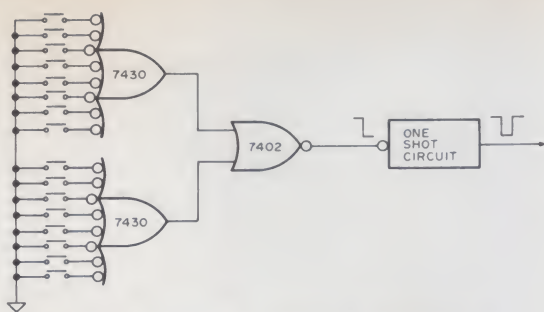

Fig. 7. Logic symbols reflect the logic functions.
Procedure: Fig. 6 gives the circuit. Fig. 6 shows the circuit the way I have been teaching you the gates. I have done this deliberately until now. Fig. 6 is *incorrectly drawn*. The correct method of drawing the circuit is shown in Fig. 7.
In the interest of simplicity, I've ignored this point until now. We are using active low inputs on the 7430 in Figs. 6 and 7; the logic function is the OR function. We want to detect when pin 1 OR pin 2, OR pin 3 and so on goes low. Thus we would draw the circuit as shown in Fig. 7 using the OR symbol and placing the little circles (state indicators — "indicating the state") on the inputs, and not on the output. By placing the circles on the inputs we are indicating that the gate is looking for active low inputs (i.e., the switch taking the input to ground). If a gate has a circle at the output (such as the 7402 NOR) the output is low when the logic function of the gate (OR) is being performed. All of this is covered in Pete Stark's article in the May issue. Please note that both circuits in Figs. 6 and 7 function in exactly the same way. A switch closure to ground triggers the one-shot. We have simply made the logic diagram reflect the logic function that is being performed.
You can breadboard the hex keyboard circuit of Fig. 7 as follows. Replace the one-shot with an LED. Connect the LED between the 7402 output and ground. If you have two 7430s, then proceed. If you have only one 7430, then use it as the upper 7430 in the figure. The other input to the 7402 is normally low if none of the eight inputs of the lower 7430 are